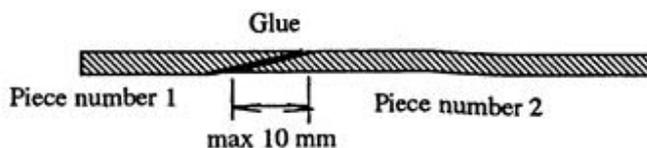

Figure 4d - Spliced Joint - a stronger joint than a butt joint.
3. A spliced joint is a stronger joint than a butt joint (See Figure 4d) Side pieces (20 mm long) may also be used on the sides of this joint.